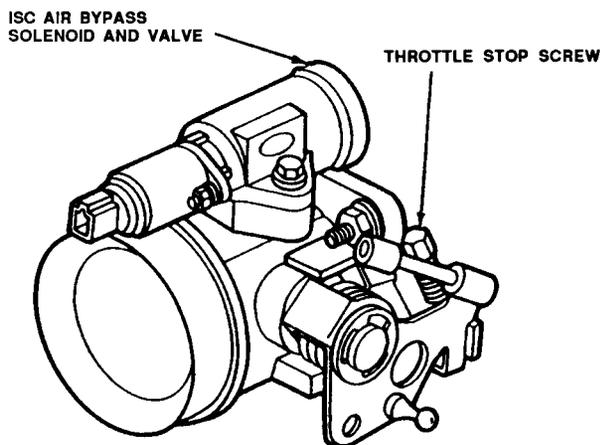

Figure F050-8
6. Turn the throttle stop screw (Figure F050-8), to adjust idle speed to: